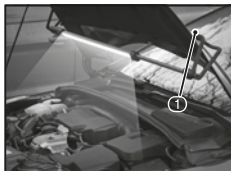

FIG. 1
9.1 ATTACHING LAMP TO BONNET – FIG. 1